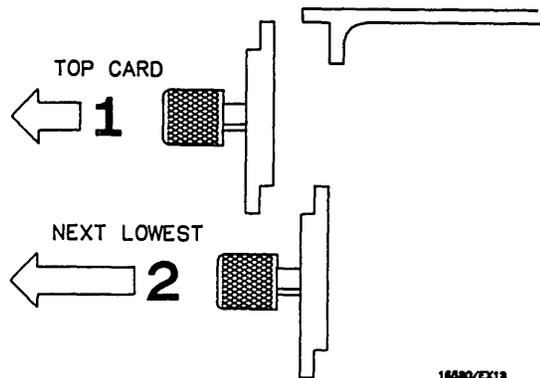

Figure 6-10. Endplate Overlap
- c. Starting from the top, begin pulling card(s) and filler panel(s) out half way. See figure 6-10.